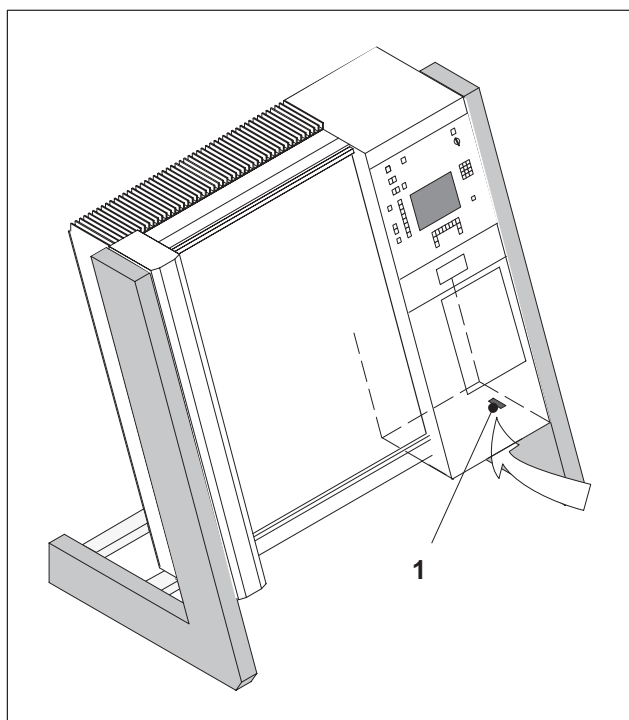

Fig. 1 Plate Image Reader
- ➊ Plug the connection cable into the serial interface (RS 232) on the underside of the Plate Image Reader (Fig. 1/1).